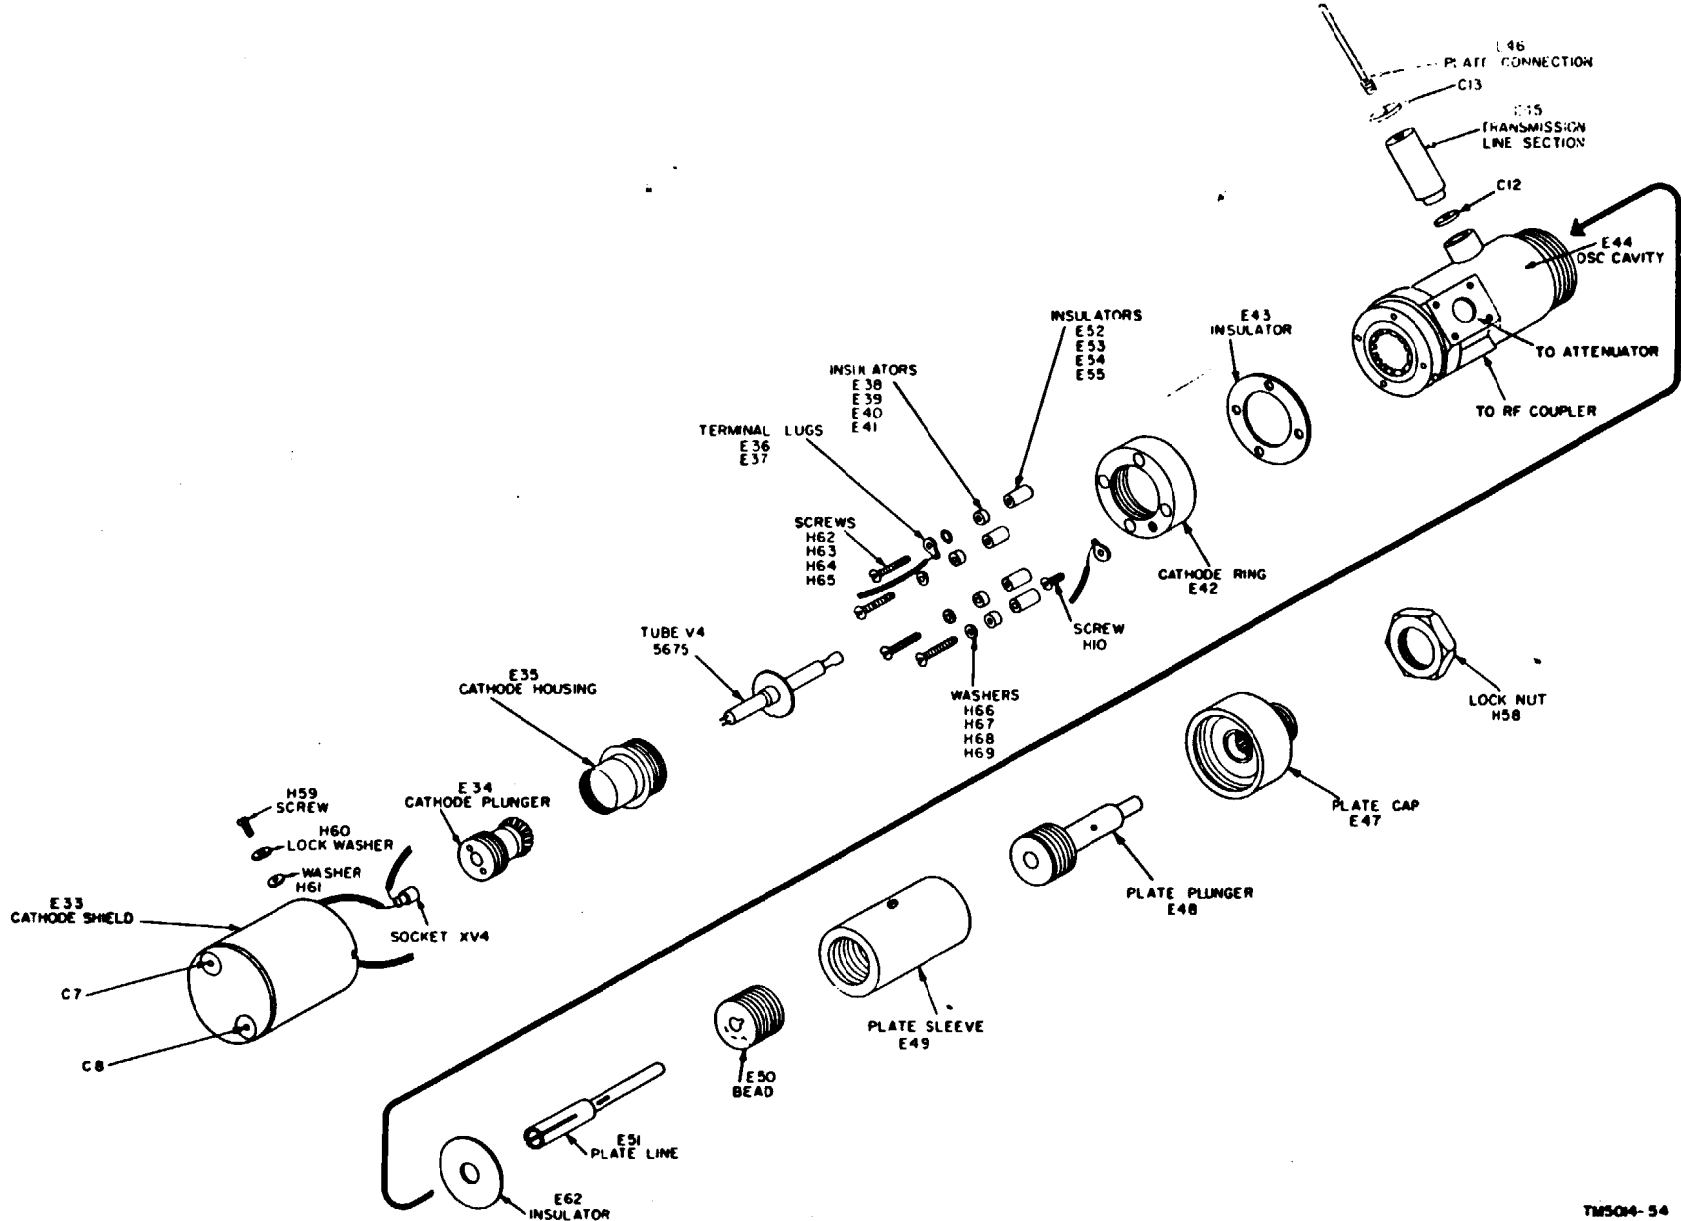

Figure 19. Test Set TS-638C//U, exploded view of rf oscillator assembly.
- (1) Remove the cathode shield by loosening the setscrew and pulling it free of the cavity (fig. 19).
- (4) Unscrew the cathode housing. The oscillator tube will slide out of the cavity.
*b. Replacement.* When replacing the rf oscillator tube, use figure 19 as a guide and proceed as follows:
- (1) Replace oscillator tube V4.
- (2) Screw the cathode housing back in place.
(fig. 19)